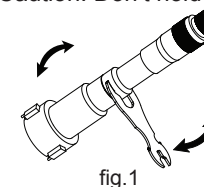

fig.1
5. Install extension rod to measure deep hole. Use spanner to separate measuring head from main stem, install extension rod between measuring head and main stem, and use spanner to tight it (fig.1). Caution: Don't hold the micrometer head by hand.